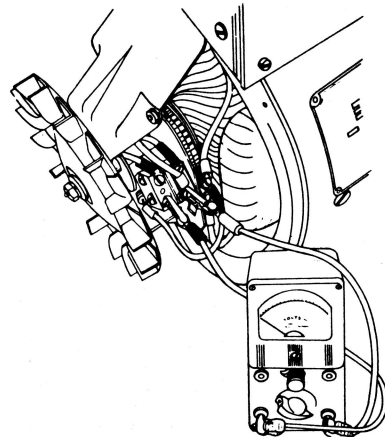

Figure 22
7. If no output voltage is obtained at the outlet receptacles or output wires, disconnect all electrical loads and connect a voltmeter directly to the A.C. Brushes as shown in Figure 22.